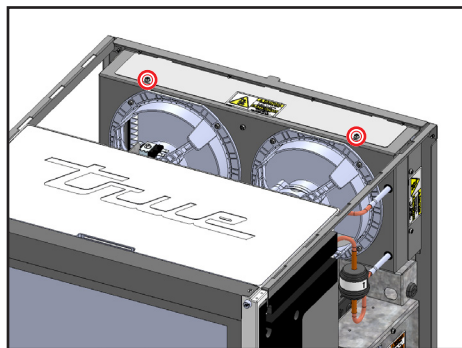

Fig. 1. Condenser plate screw locations.
4. Remove the top condenser plate. See fig. 1.